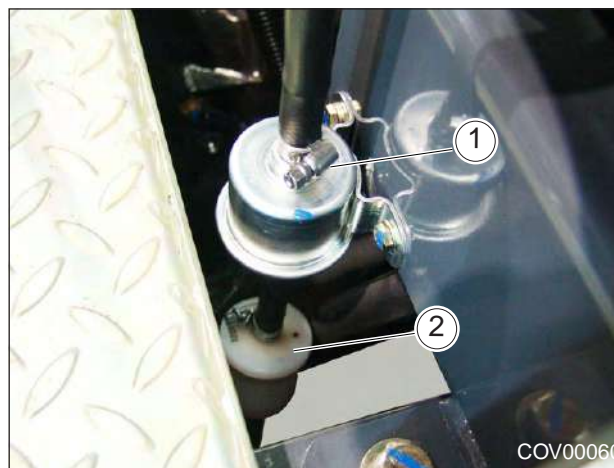

Figure 9.21 - In Line Fuel Filter
.Refer to Figure 9.21. The in line fuel filter (2) is located below the electric fuel pump (1). is not a serviceable item and must be replaced. It is not possible to dismantle and clean the filter.